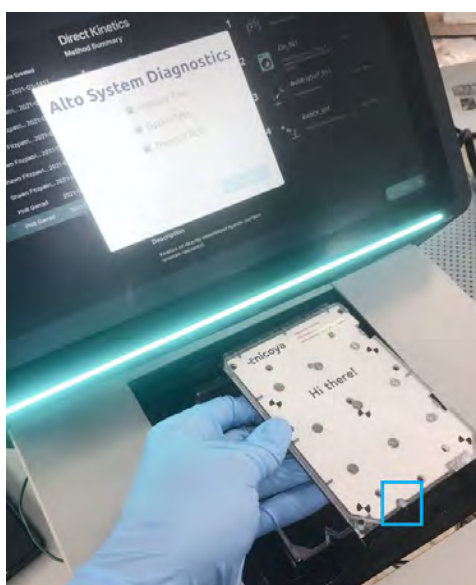

Figure 5.16: Alignment of the cartridge notch for loading the cartridge into the cartridge loading bay for Alto.
2. Install the QC cartridge in the instrument with the notch aligned and facing outward as shown in Figure 5.16.